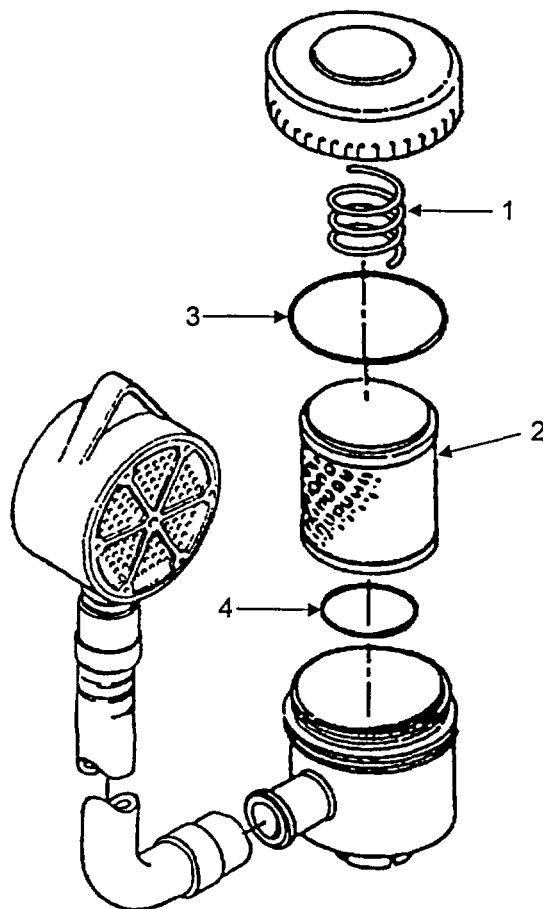

FIGURE 3-11. COMPRESSOR INTAKE AIR CLEANER FILTER
A dry micronic filter is used to filter the intake air (Figure 3-11).
- a. Remove cover (1) and filter element (2) (Figure 3-11, Item 2). Note position of element in housing.
c. When reinstalling/replacing the element (2), ensure spring (5) on top cover (1) is placed properly.